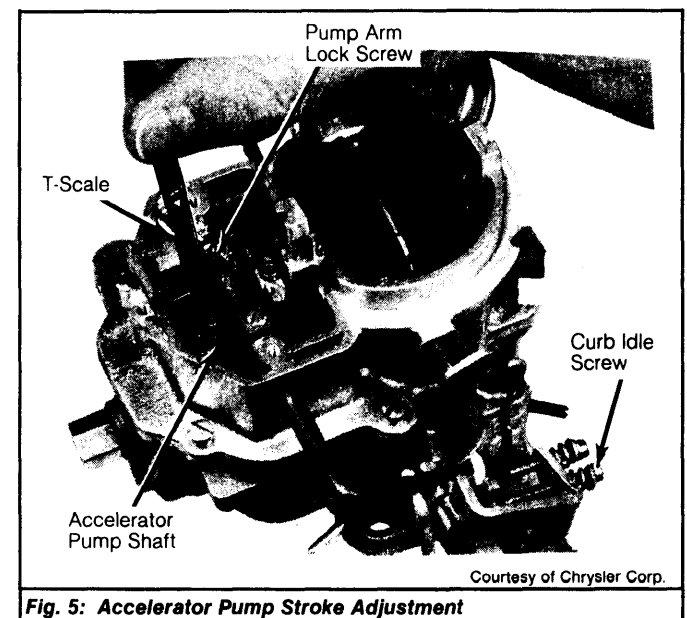

Fig. 5: Accelerator Pump Stroke Adjustment
- 1) Remove step-up piston cover plate and gasket. Back off curb idle speed screw until throttle valves are seated. Count number of turns required to seat throttle valves. Fast idle cam must be in open choke position. See Fig. 5.